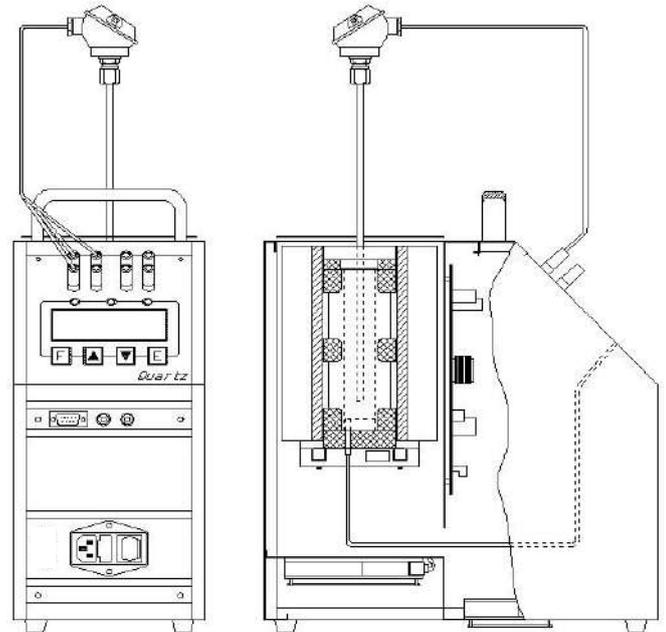

Fig.4
Make reference to the temperature value of the display (8) (figure 4).
Note: Figures 4 and 5 refer to the calibrator in version 2I with external sensors plugs.